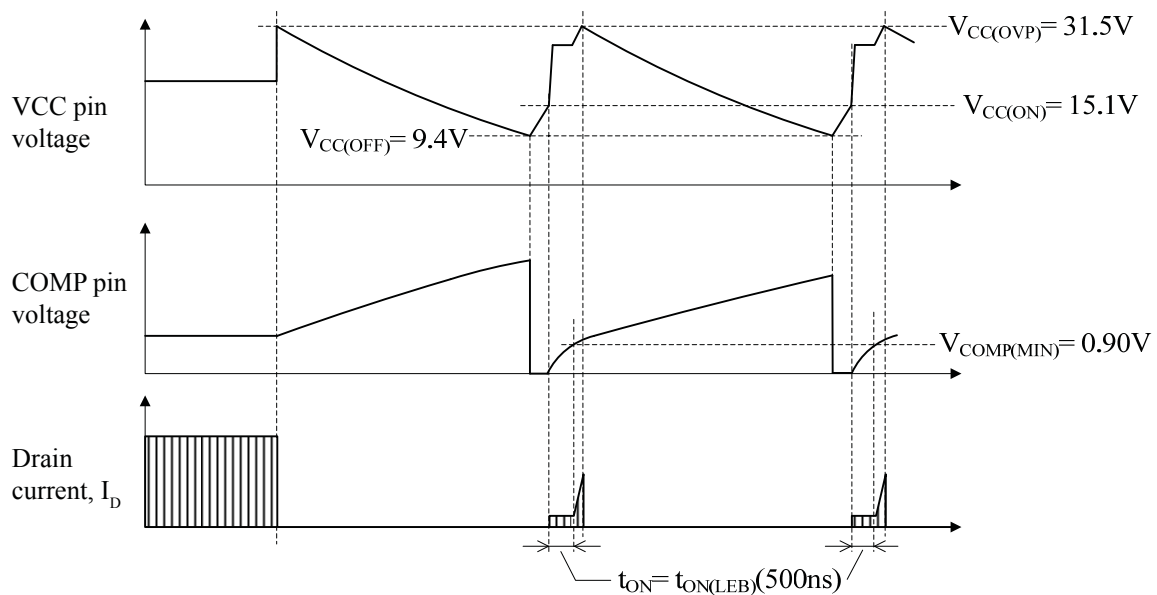

Figure 34. Waveforms when VCC pin OVP is being activated (LC551xD)
- VCC Pin Overvoltage Protection. figure 34 shows the waveforms of the OVP function on the VCC pin. When the VCC pin voltage with reference to the S/GND pin reaches and exceeds $V_{CC(OVP)} = 31.5 \text{ V}$, OVP is activated and the IC stops switching